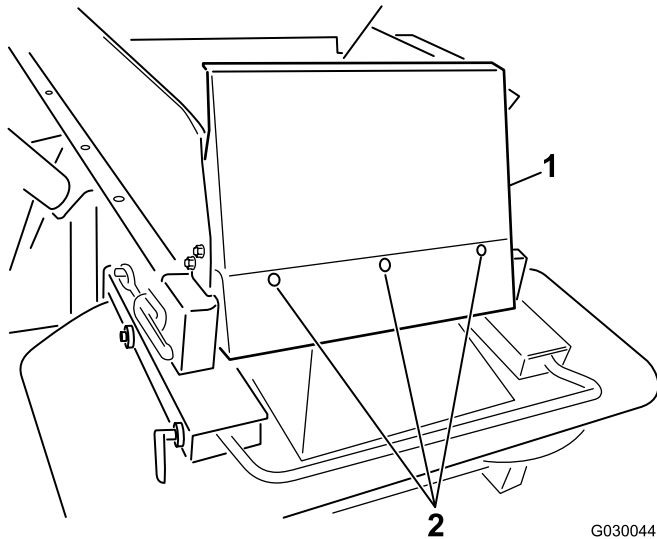

Figure 7
6. Install the hopper guard using the supplied button head bolts (1/4 x 5/8 inch) and nylon locknuts (Figure 7).